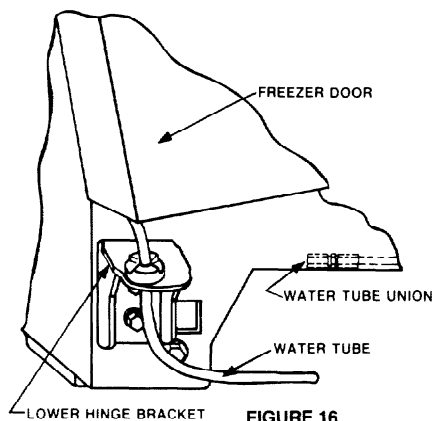

FIGURE 16
7. The freezer door water line will thread through the bottom hinge; lift the door off carefully. See Figure 16.